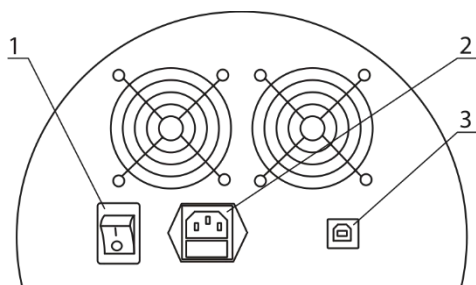

Figure 1. Rear panel of the unit
- Connect the power cable to the socket on the rear side of the unit (fig. 1/2);
- Connect the USB data cable to the port on the rear side of the unit (fig. 1/3) and to the personal computer;
6.2 Turn on the unit by pressing the power switch on the rear panel (fig. 1/1).
6.6 After finishing the operation, switch off the unit with the power switch (fig. 1/1).